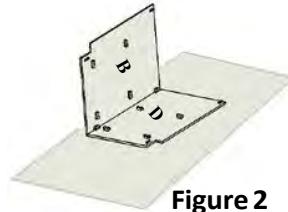
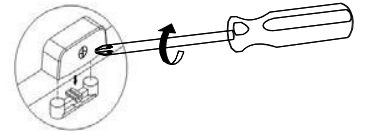
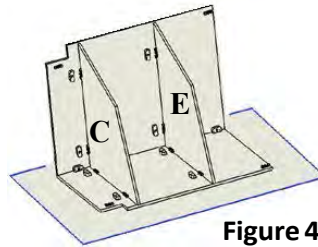

Figure 2
Figure 3
Figure 4
**2. Insert side panel (B)** into the grooves of back panel (D). (Figure 2) Align the plastic half part of the cam lock connectors. Make sure it fits and lock connectors with a screwdriver by turning the screw located on the cam lock connector to the right 180° (Figure 3)
**3. Insert the bottom panel (C)** and shelf (E) (Figure 4), well align the cam locks and lock the connectors with a screwdriver by turning the screw located on the cam lock connector to the right 180° (Figure 3).
**5. Align the Frames** with the side and back panel. (Figure 6&7) Align the cam locks and lock them by turning the screw to the right 180° (Figure 3)